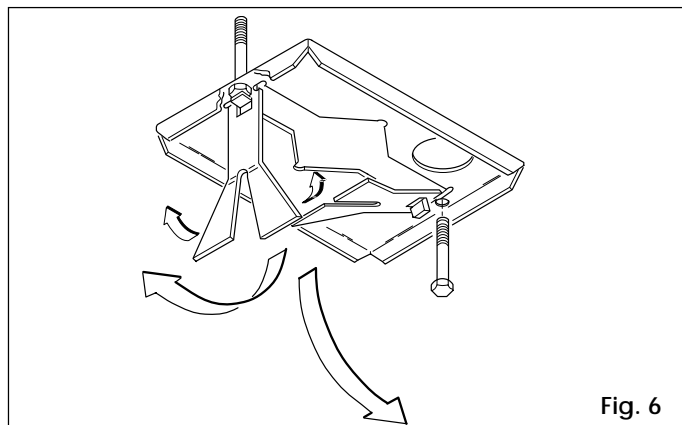

Fig. 6
- 2) Assemble the foundation plate as shown in Fig. 6.